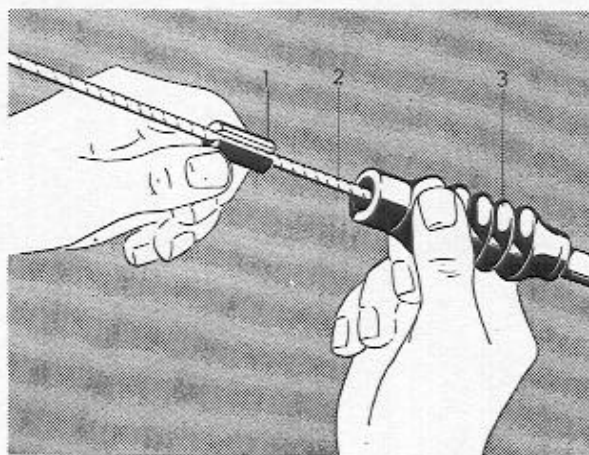

Fig. 59. Fitting the rubber cover.
For this purpose there is a special rubber cover with sealing plug (part numbers 86850 and 86851 respectively). When replacing, the pull rod is disconnected from lever and the cable disconnected from the clevis. Cut off the old cover and thread on the new one. Connect the cable to the clevis and re-fit the pull rod. Place the slotted sealing plug (1, Fig. 59) onto the cable (2) and press it into the rubber casing (3).